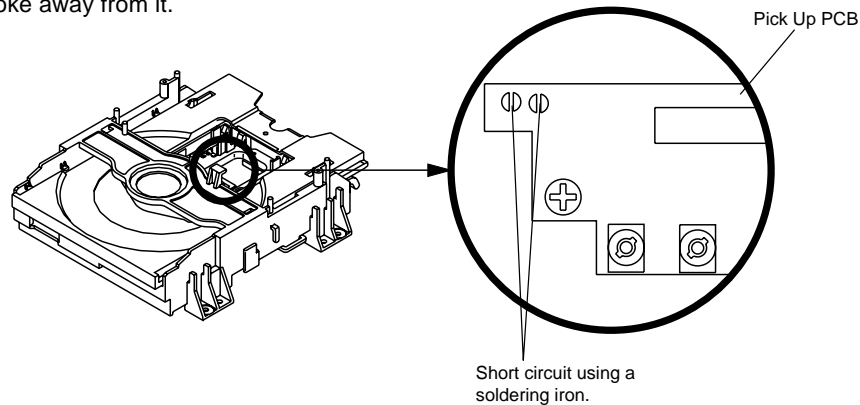

Fig. 1
1. Remove the TV/DVD/VCR block from the main unit as shown in **Fig. 1** below can be seen.